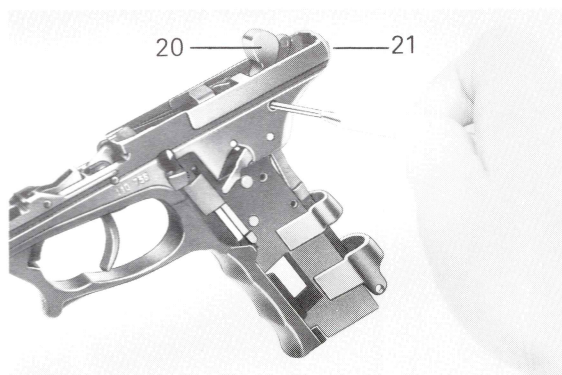

Fig. 21
- Press out the hammer axle (23) (Fig. 21) and then remove the hammer (20), disconnecter (22) and the indicator pin (21).